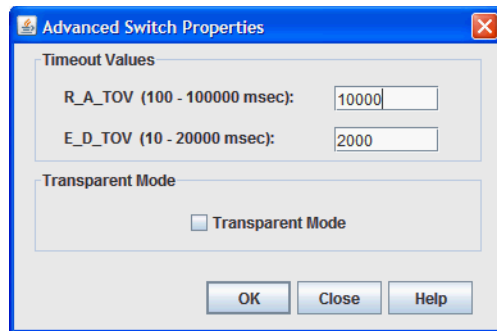

Figure 10-9 Advanced Switch Properties window
2. In the Advanced Switch Properties window (Figure 10-9), select **Transparent Mode**, then click **OK**.